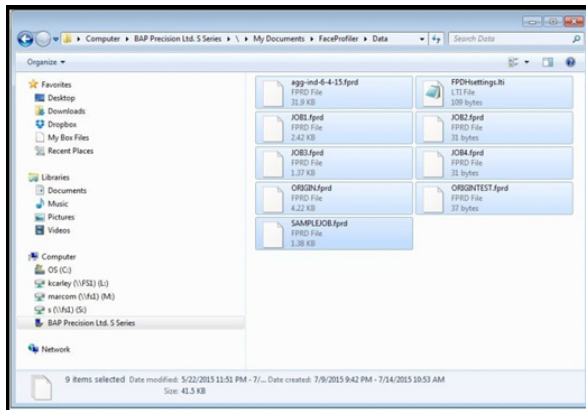

Figure 63
3. Click the Face Profiler Reports desktop icon to launch the program (Figure 63).